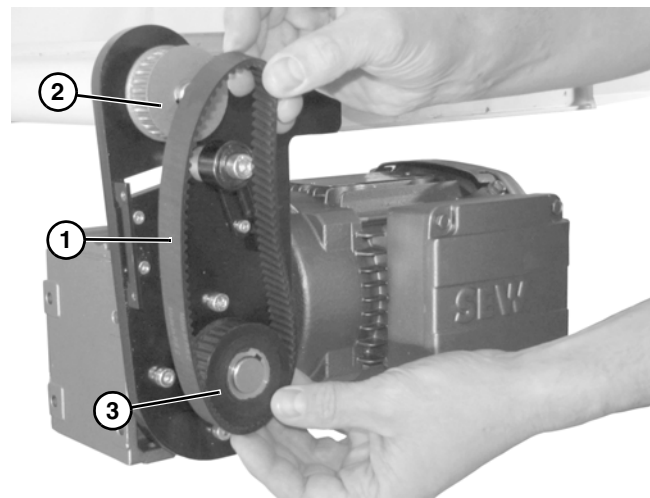

Figure 9
6. Wrap timing belt (Figure 9, item 1) around driven pulley (Figure 9, item 2) and drive pulley (Figure 9, item 3). Install driven pulley (Figure 9, item 2) onto conveyor shaft.